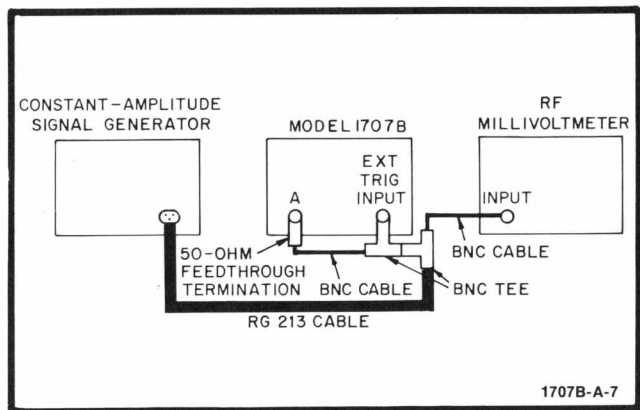

Figure 5-12. Main Triggering Test Setup
- a. Connect instruments as shown in figure 5-12.